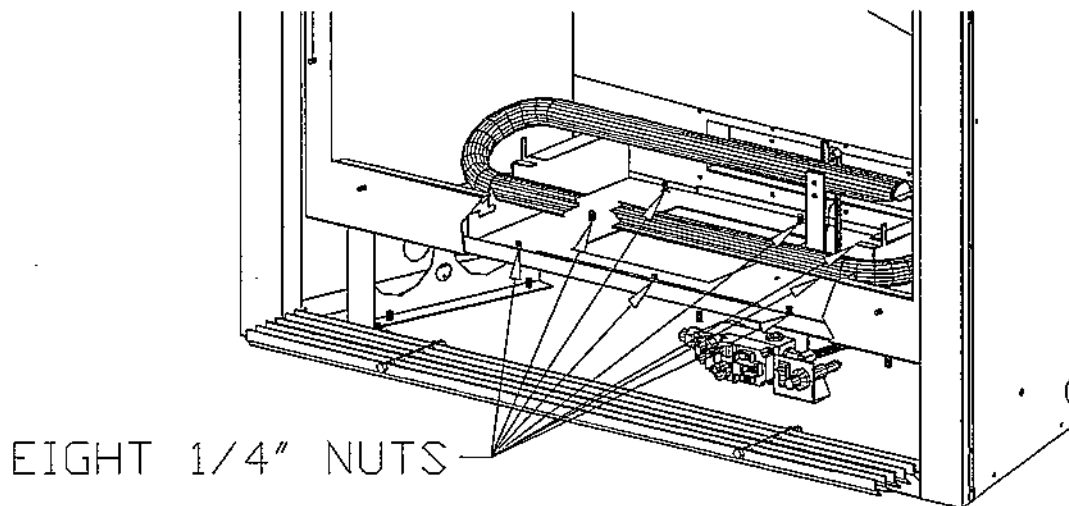

FIGURE 13
- (2) The length of pipe from the gas meter to the most remote outlet (outlet "A") is 60'. THIS IS THE ONLY DISTANCE USED.
- (3) Using horizontal line marked 60', outlet "A" supplying 30 cubic feet an hour requires 1/2 inch pipe. Outlet "B" supplying 25 cubic feet an hour requires 1/2 inch pipe. Section 1 supplying outlets "A" & "B", 55 cubic feet an hour requires 1/2 inch pipe.
F) MILLIVOLT BOARD INSTALLATION. See Figure 13.